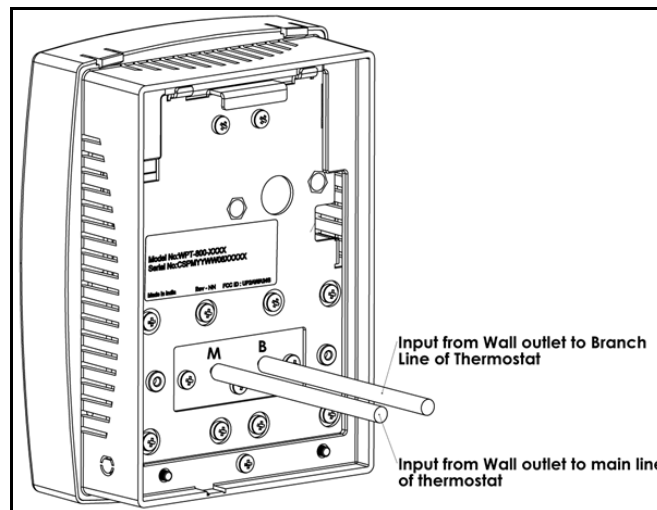

Figure 5- Connecting Main and Branch Pipe to M and B Port
5. Connect the branch and main tube to the air pipes marked B and M on the rear of the WPT as shown in figure 5.